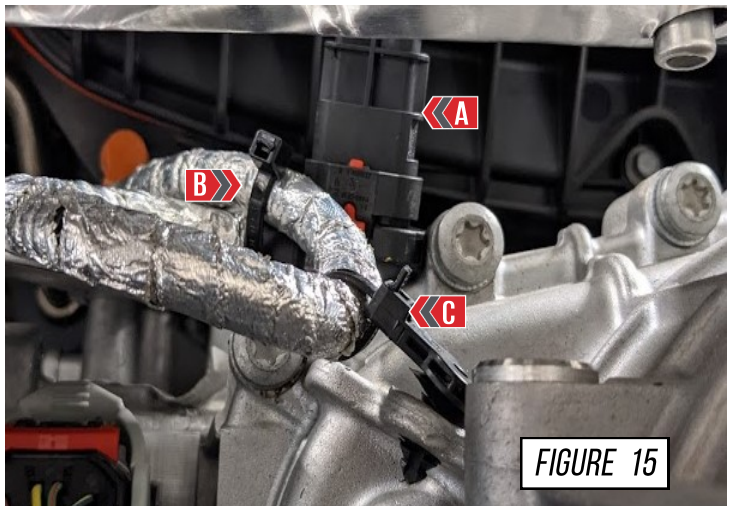

FIGURE 15
Using the supplied zip tie to secure it into place, as shown at (A) in **Figure 15**.